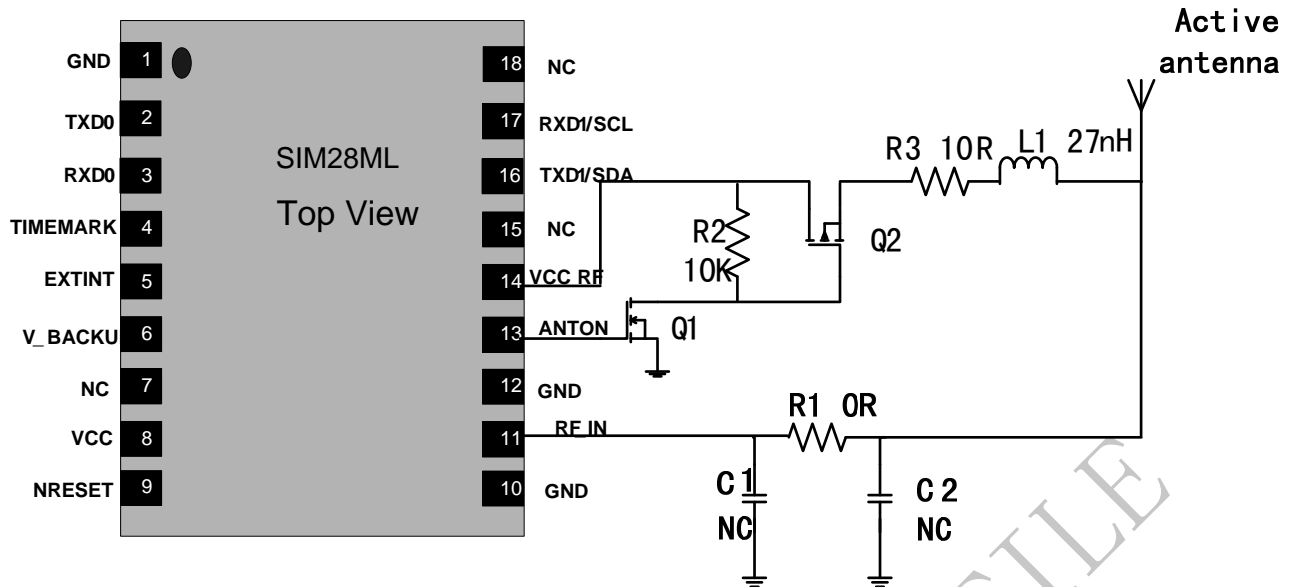

Figure 9: SIM28ML Active antenna power consumption saving design
- SIM28ML can also reduce power consumption by controlling the power supply of active antenna by pin 13 ANTON as shown in Figure 9. ANTON is an optional pin which can be used to control the power supply of the active antenna or the enable pin of an external LNA. When SIM28ML module enters the standby mode, the ANTON pin will be pulled down, MOSFET Q1 and Q2 are in high impedance state and the power supply for antenna is cut off. In normal mode, the voltage value of ANTON is about 2.8V, it will make Q1 and Q2 in the on-state, VCC_RF will provide power supply for the active antenna. If not used, please keep ANTON pin open. For minimizing the current consumption, the value of resistor R2 should not be too small, and the recommended value is 10k ohm.